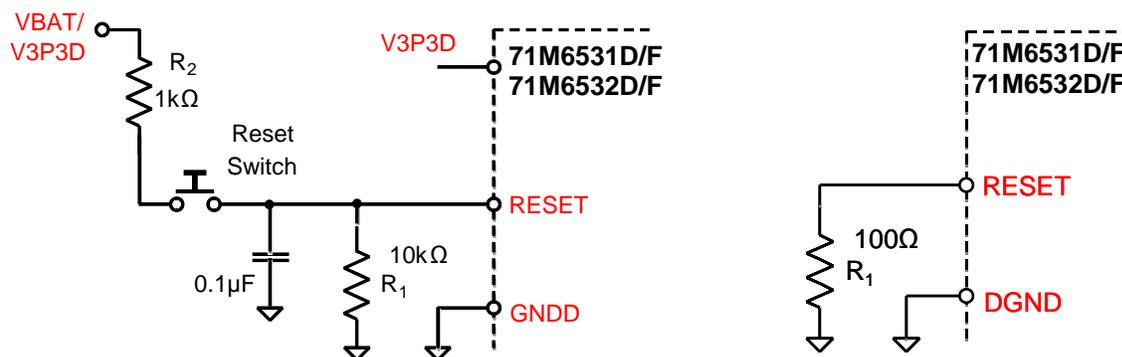

Figure 38: External Components for the RESET Pin: Push-button (Left), Production Circuit (Right)
Even though a functional meter will not necessarily need a reset switch, it is useful to have a reset push-button for prototyping as shown in Figure 38, left side. The RESET signal may be sourced from V3P3SYS (functional in MISSION mode only), V3P3D (MISSION and BROWNOUT modes), or VBAT (all modes, if a battery is present), or from a combination of these sources, depending on the application.
For a production meter, the RESET pin should be protected by the external components shown in Figure 38, right side. R1 should be in the range of 100 Ω and mounted as closely as possible to the IC.
- ✓ Since the 71M6531 generates its own power-on reset, a reset button or circuitry, as shown in Figure 38, is only required for test units and prototypes.